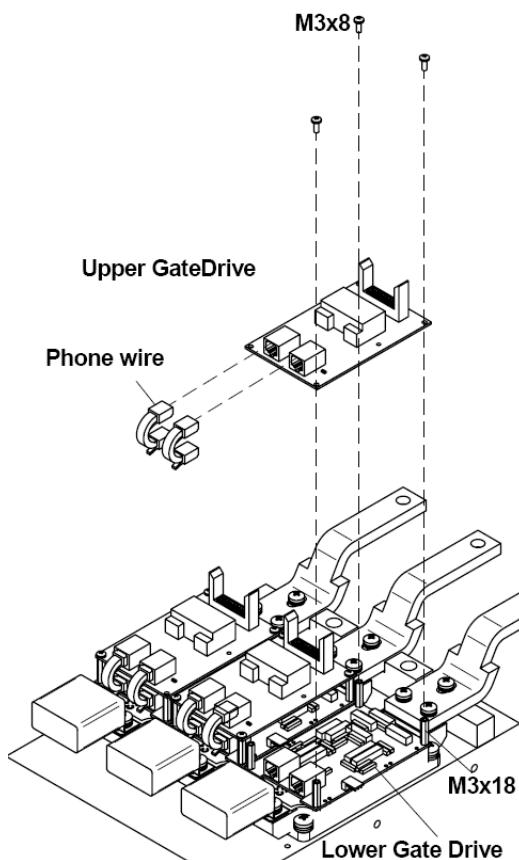

Figure 3.18.Assembly of the upper GateDrive
Follow *figure 3.18* while reading these instructions:
- 2) Place the new board on the hexagonal spacers **M3x18**. (*figure 3.18*).